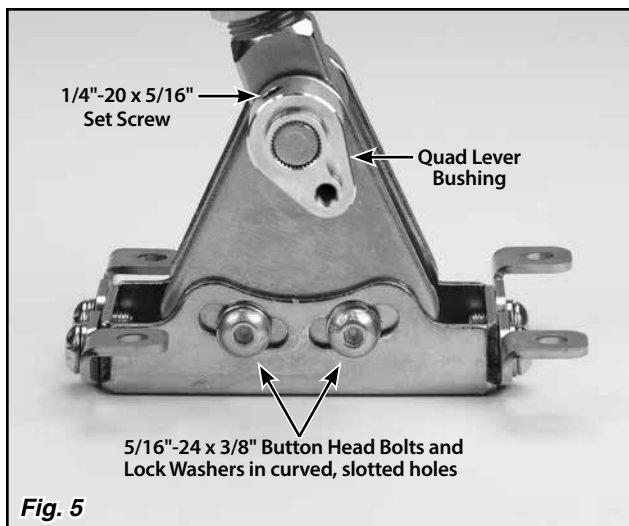

Fig. 5
Step 5: Make sure the two 5/16"-24 x 3/8" button head bolts and lock washers in the curved, slotted holes in the driver side of the floor mount mounting bracket are tight using a 3/16" Allen wrench. Place the Shifter in the desired location on the vehicle's floor. Make sure the shifter lever will not interfere with the dash when in Park, or with the seat when in low gear. The shifter assembly may be tilted forward or backward if needed by loosening the two 5/16"-24 x 3/8" button head bolts and lock washers in the curved, slotted holes in the driver side of the floor mount mounting bracket. Retighten the button head bolts and lock washers in the curved, slotted holes once you have the shifter assembly at the angle you want. Fig. 5